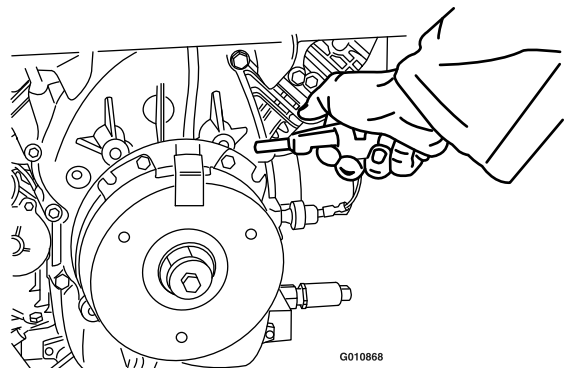

Figure 64
3. Using an air compressor, blow out any debris from under the brake pole and around the brake spacers (Figure 64).